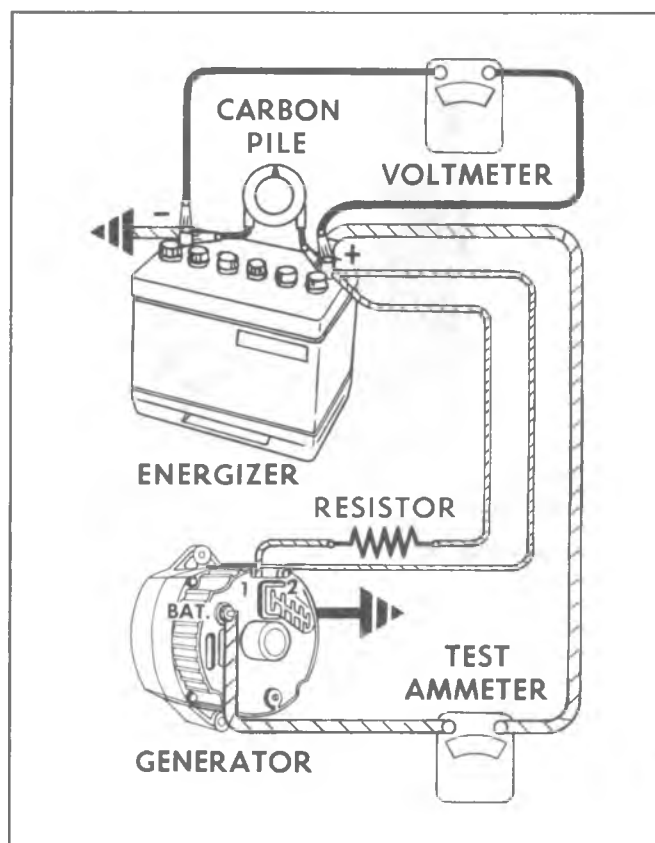

Fig. 6d—Generator Output Test
- 1. Make connections as shown in Figure 6D, except leave the carbon pile disconnected. Use a fully charged Energizer or battery, and a 10 ohm resistor